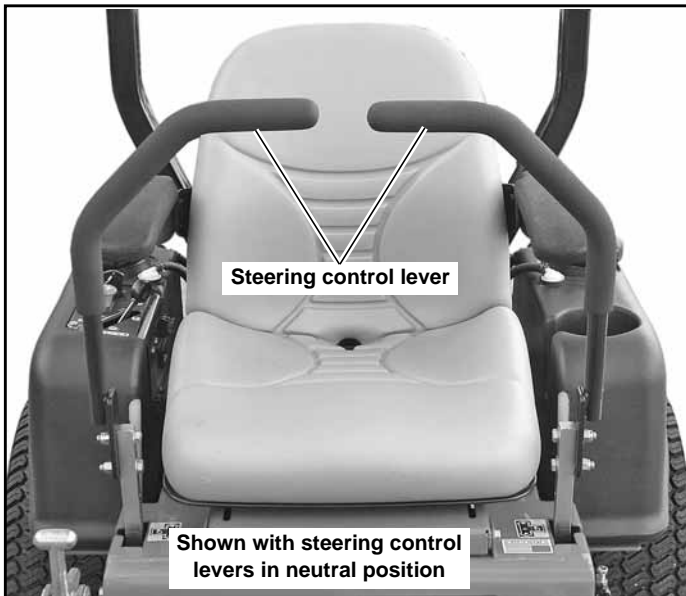
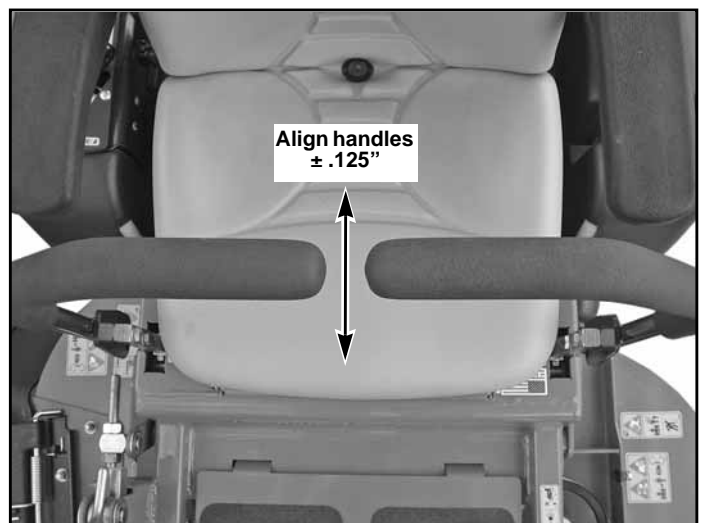

Figure 4-3
Figure 4-4
engage the brakes in the brake slot) (Figure 4-3).
17. The steering control levers should be adjusted so that they align vertically with each other when in the neutral position (Figure 4-3). Space between ends of steering control handles to be  $.50'' \pm .25''$ . Figure 4-4
3. Place the steering control lever in the neutral position. Figure 4-3